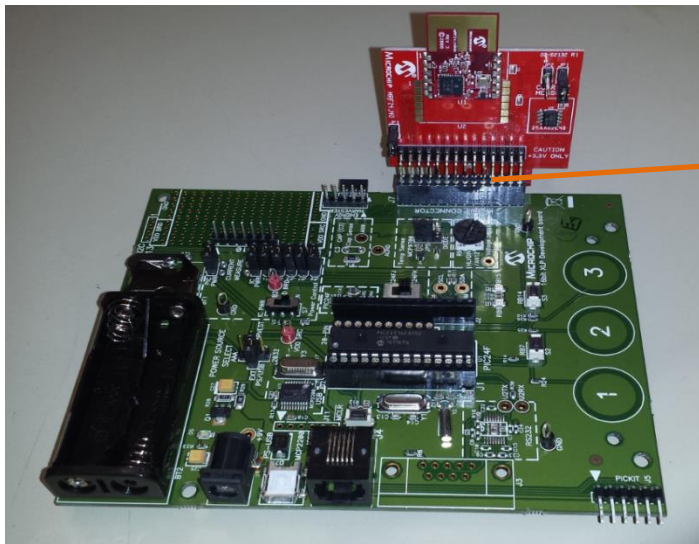

Figure 1 Connector J7
- a. First connect the Microchip MRF24J40 to the 16-Bit XLP Development board via connection J7 (see Figure 1.)